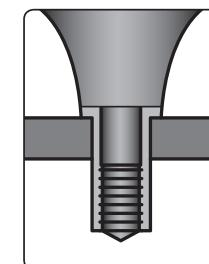

Fig. 5
- 5) **Insert the rivet nut into the installation hole (fig. 5).**